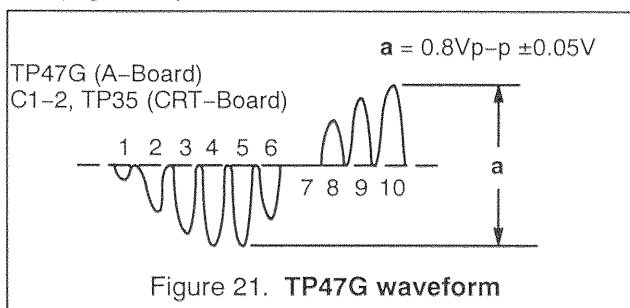

Figure 21. TP47G waveform
3. Select DAC Sub-Color Adjustment (B0) and adjust for peak to peak amplitude to be 0.8V p-p \pm 0.05V (Figure 21).